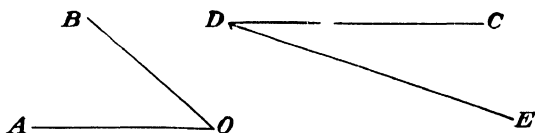

Fig. 117.
In your notebook draw two angles as shown in Fig. 117.
2. Divide $\angle CDE$ in Fig. 117 into four equal parts. Check the results.